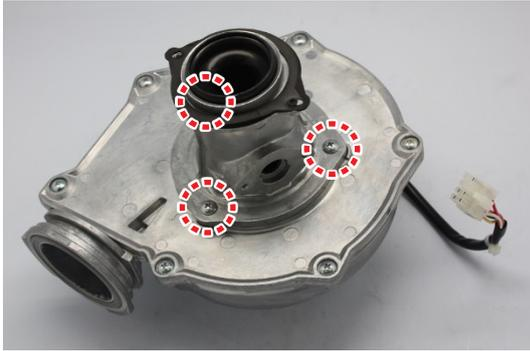

Figure6
12. Attach the gas valve connection back to the fan assembly by using the 3 screws as shown in figure 6.